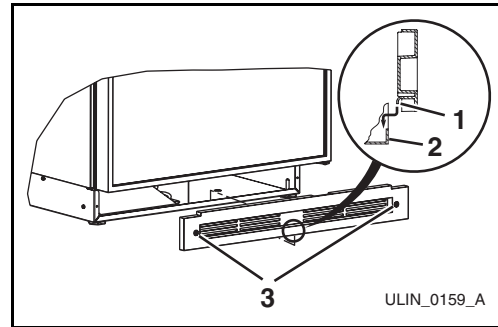

Figure 18
5. Place the hook-hinge (**Figure 18, 1**) located on the rear bottom side of the grille onto the front lip (**Figure 18, 2**) of the unit base. Swing the grille up into position, and align the screw holes on the grille to the grille screw hole on the cabinet.
6. Secure, but do not overtighten both grille screws (**Figure 18, 3**).